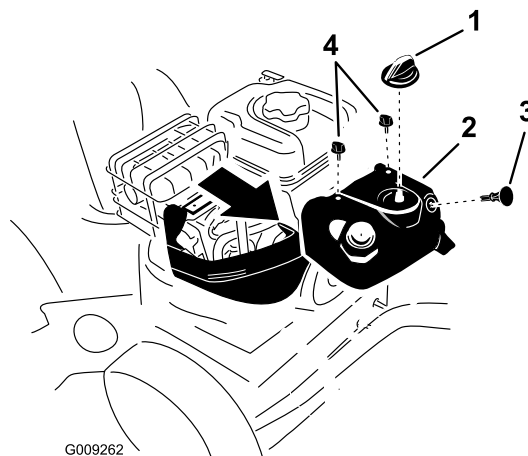

Figure 57
Note: To access the spark plug, you must first remove the upper snow hood (Figure 57).
1. Remove the choke knob and the ignition key (Figure 57).
2. Remove the 2 screws that secure the upper snow hood to the machine (Figure 57).